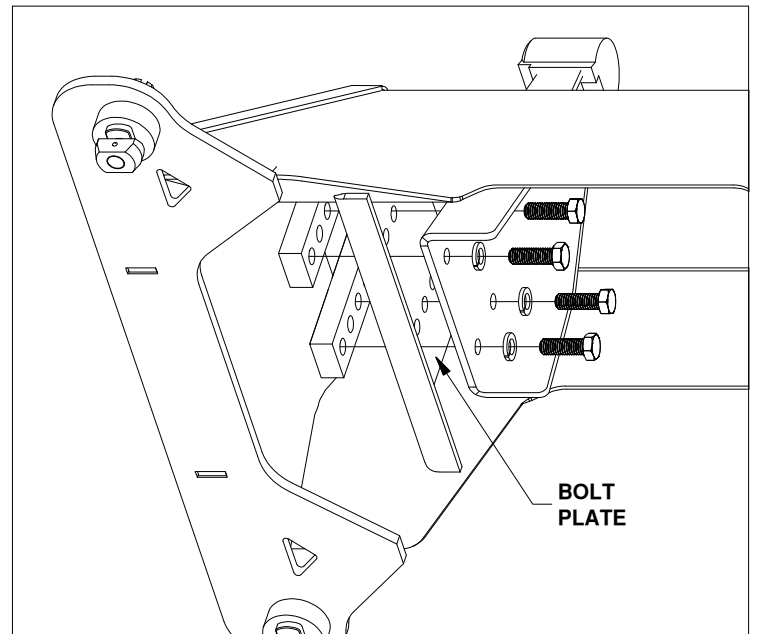

Figure A2: Passenger pivot arm mounting location.
2. **Secure arms.** Locate both pivot arms, the four threaded blocks, eight 1/2" cap screws, and eight 1/2" split lock washers. Place the lock washers over the cap screws. Align the flat side of the pivot arm flat against the bolt plate and install four 1/2" cap screws through the holes on the arm, holding the arm in place, as shown in Figure A2. Locate the threaded blocks. Note that the sides of the block have threaded holes on one side and smooth bored holes on the other side. When installing the threaded blocks it is critical that the side with the smooth holes is flat against the bolt plate when installed. It is also critical that each of the five holes in the threaded block match up with the five vertical holes in the bolt plate. Pass the threaded block under the bases side and align the block with each set of screws and start each screw, as shown in Figure A2. After all the screws are started through the arms, torque each bolt to 80 ft-lbs.